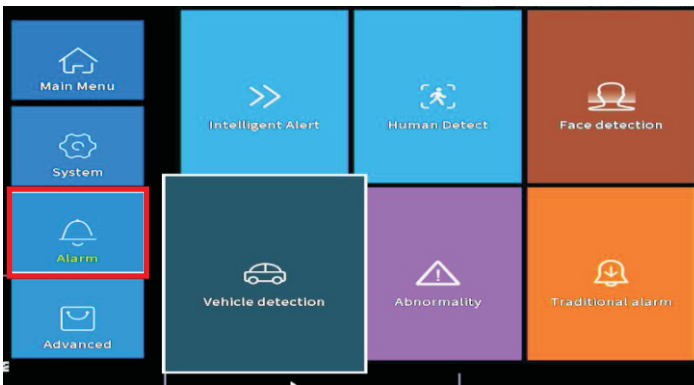

Figure 2. Alarm Menu
2. Select on Alarm menu as seen on Figure 2.